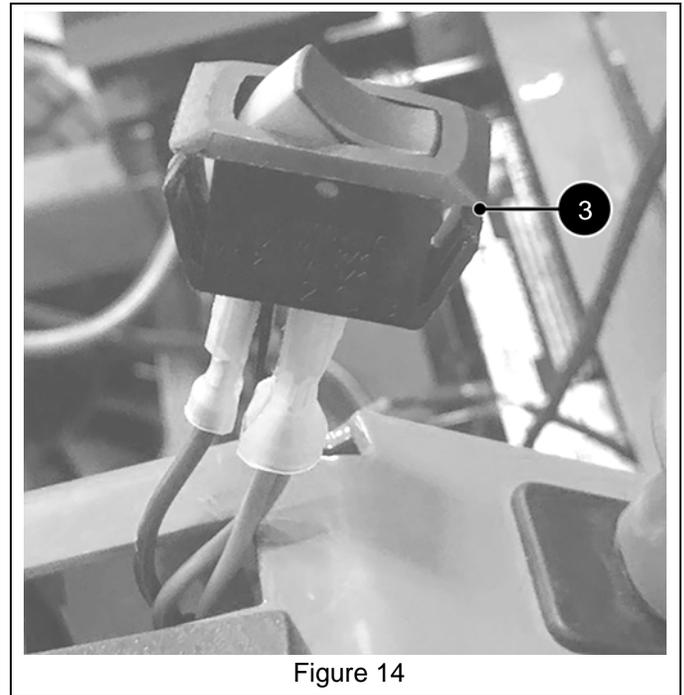

Figure 14
12. Connect switch (item 3) to wires. See Figure 14.